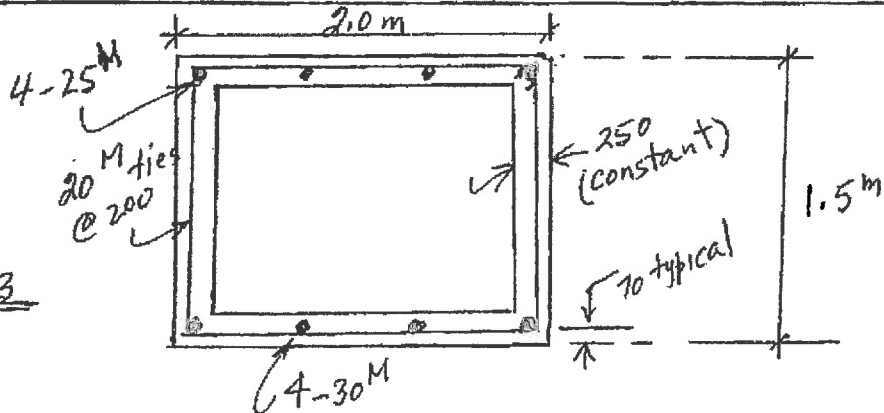

FIGURE B3
- B3. Figure B3 shows the cross-section of a reinforced concrete culvert. For the given dimensions and steel reinforcing, calculate its moment (M_r) and shear (V_r) resistances. Use $f'_c = 35$ MPa and $f_y = 400$ MPa.